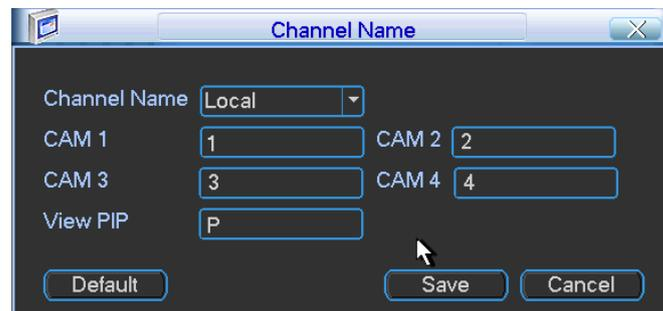
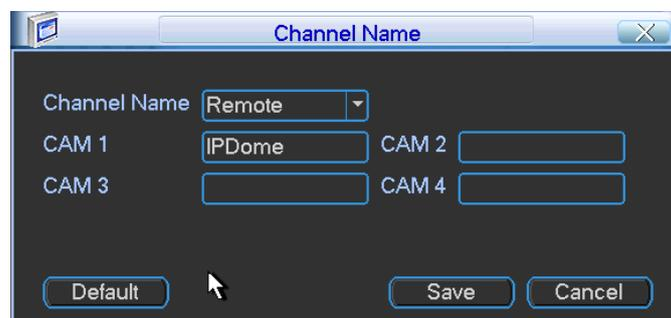

Figure 4-89
Figure 4-90
- Channel name: Click the Modify button here to change channel name. See Figure 4-89. You can also set PIP channel name. Select remote front the dropdown list you can change channel remote name. See Figure 4-90.